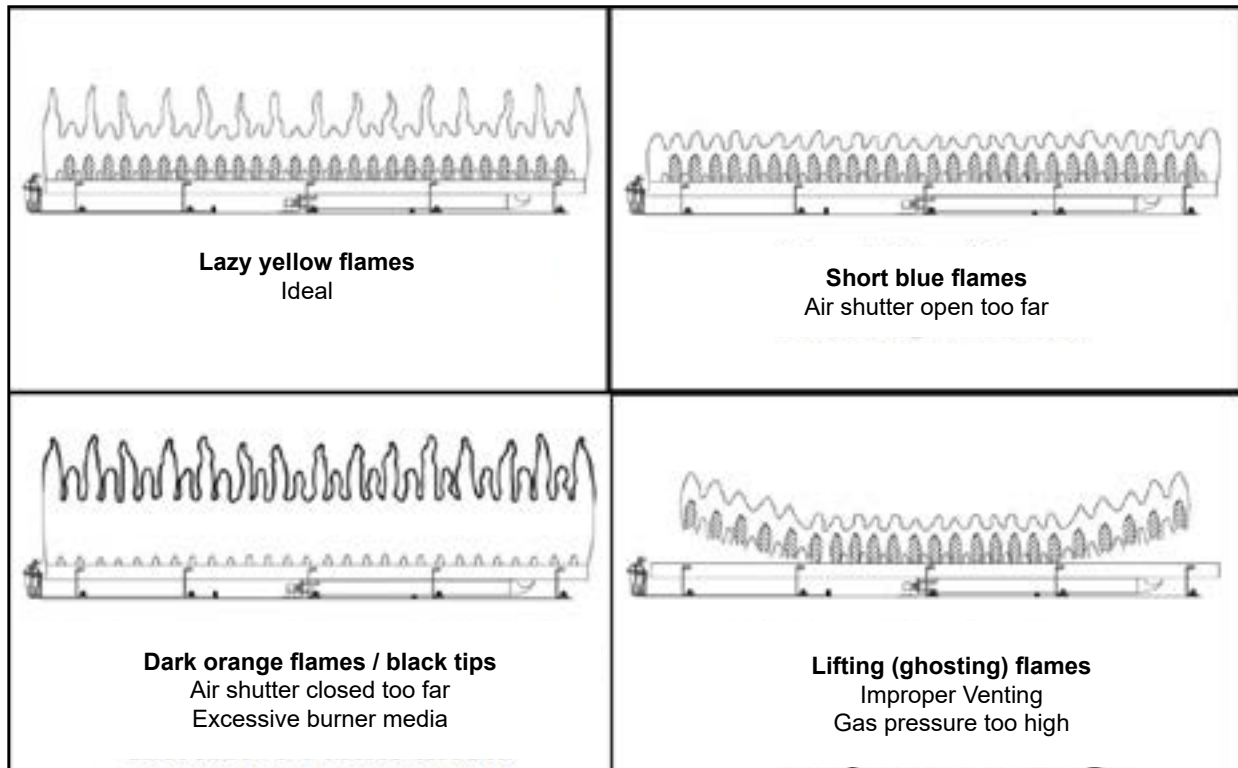
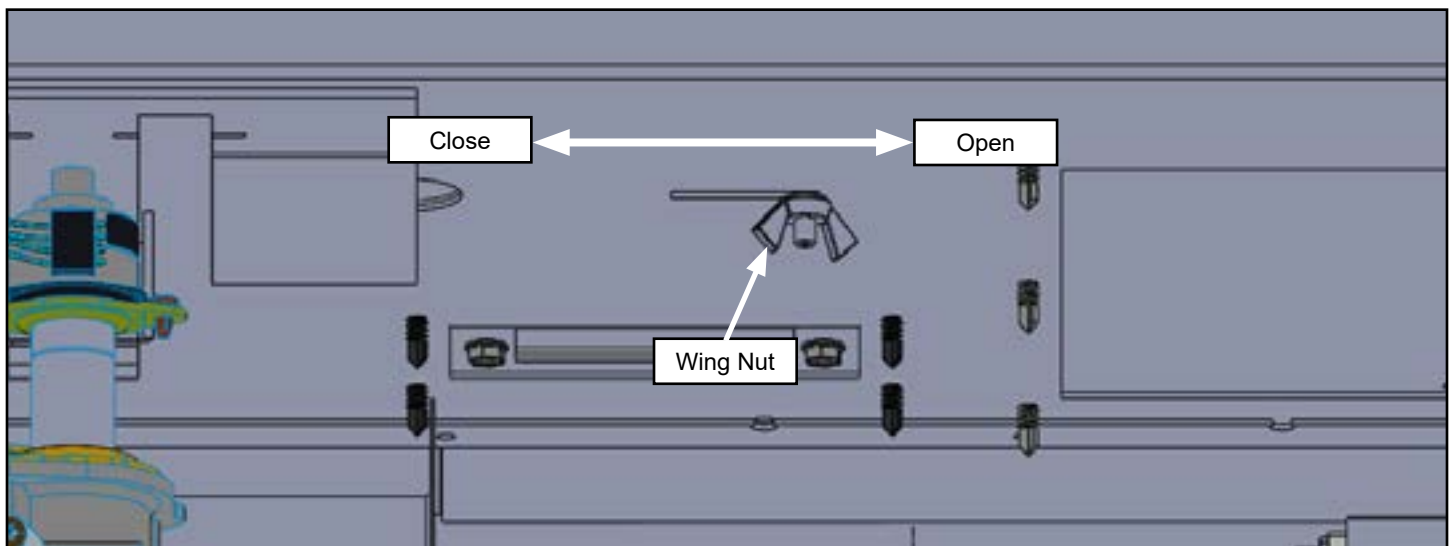

Figure 18.5.01:
Figure 18.5.02:
- Inspect and ensure the lighting of the main burner occurs within 4 seconds of the main gas valve opening. Flames should match those shown in **Figure 18.5.01**
The **345-DVTE31LN-1** and **345-DVTE31LP-1** includes an air shutter located under the firebox which may be used to adjust the primary air to achieve the ideal flame as shown in **Figure 18.5.01**. To adjust, loosen the wing nut on the air shutter and adjust as shown in **Figure 18.5.02**. To open the air shutter and increase air flow to the burner, slide the air shutter to the left. To close the air shutter and decrease air flow to the burner, slide the air shutter to the right. Tighten the wing nut when the desired flame appearance is achieved.